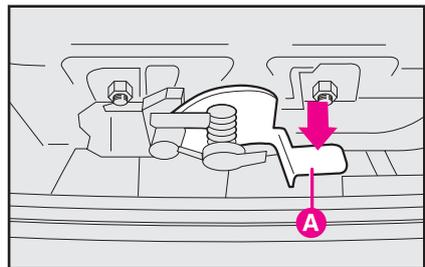

fig. 134
3) Press the fastener **A**-fig. 134, as shown in the figure.